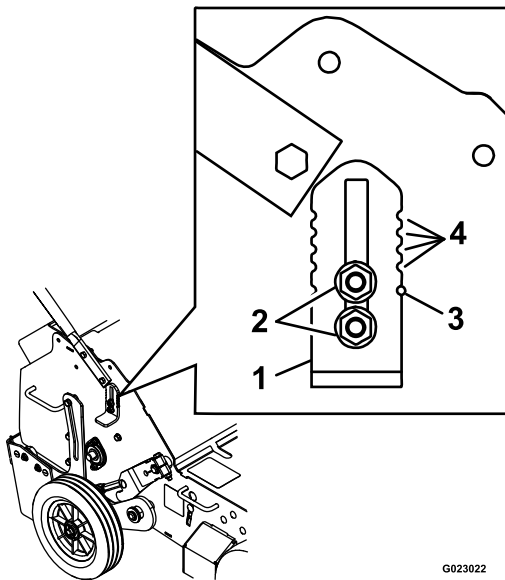

Figure 17
3. Loosen the nuts securing the wheel stop on the right side of the machine (see Figure 17).
6. Repeat steps 3 through 5 for the wheel stop on the left side of the machine. Use the visual indicator notches in the wheel stop and indicator holes in the frame to set the wheel stops to the same height on each side (see Figure 17).